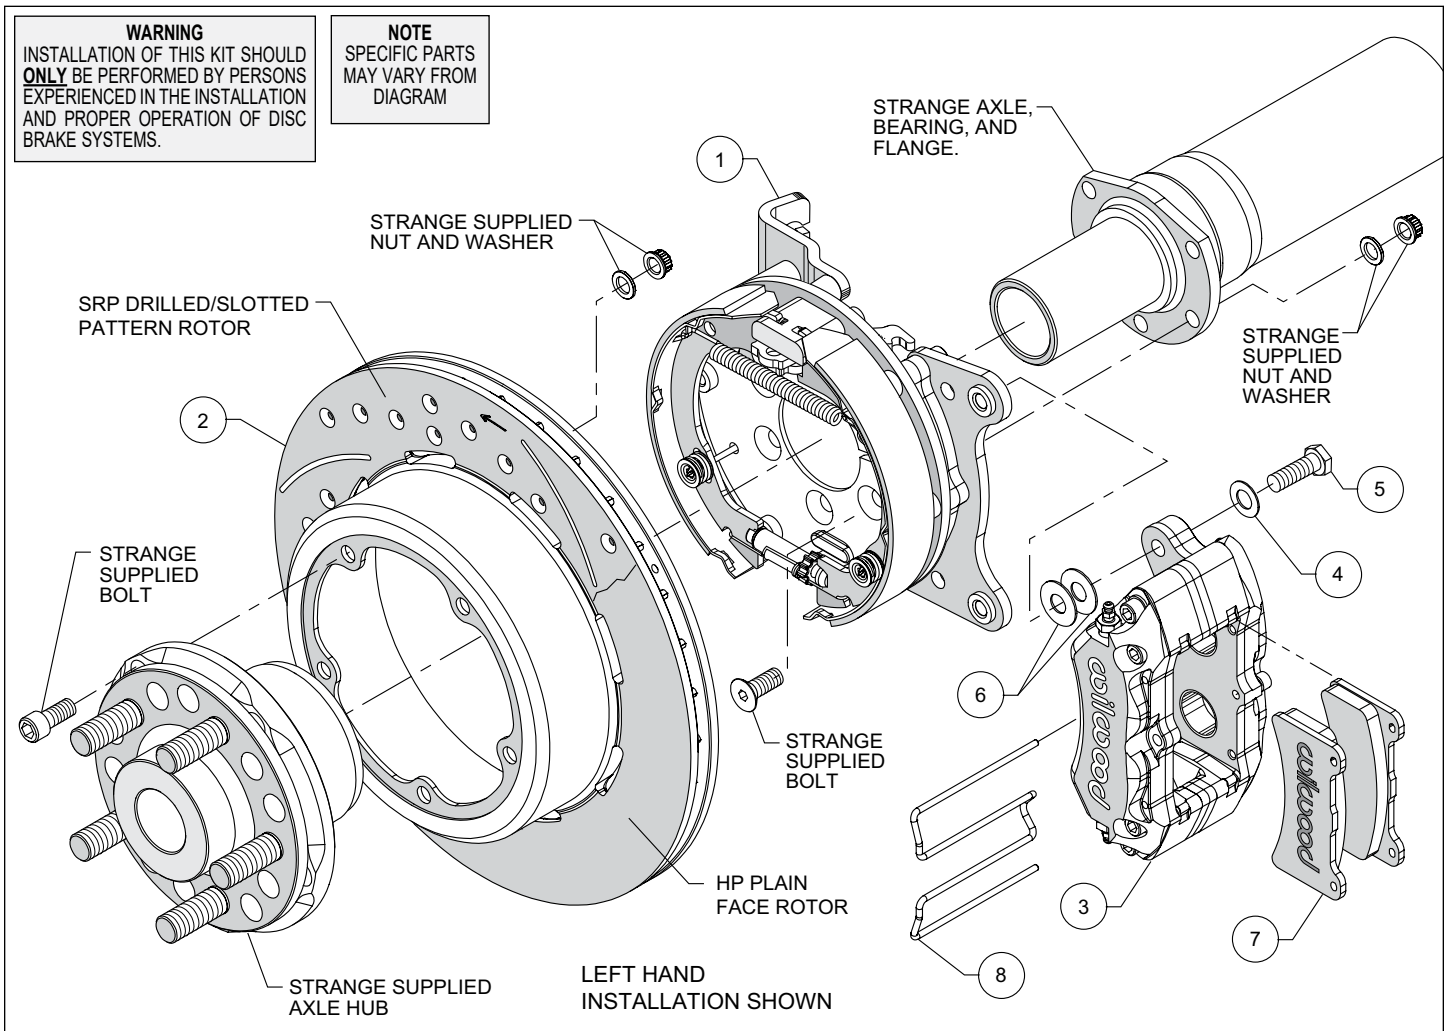
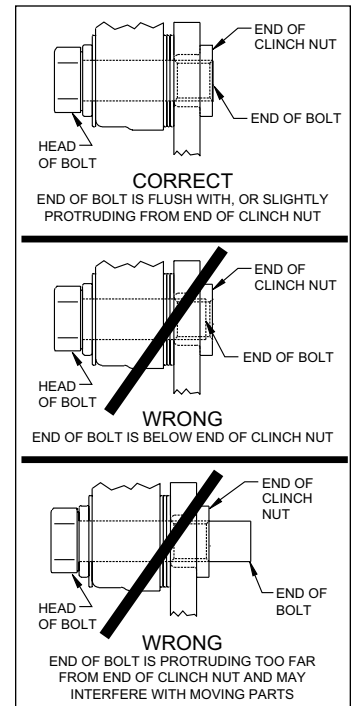

Figure 1. Typical Installation Configuration
Figure 3. Clinch Nut Engagement Diagram
NOTE: Numbers in parenthesis refer to the parts list and Figure 1 on the preceding pages.
CAUTION: All mounting bolts must fully engage clinch nuts. Be sure to check that all bolts are either flush or protruding through flanged side of clinch nut after shimming, Figure 3.
- Orient the bracket assembly (1) as shown in Figure 1 and slide it onto the axle. Ensure that the bracket assembly backing plate fits flush against the axle housing flange. Mount the bracket assembly to the axle flange using bolts, washers, and nuts (all Strange supplied) as shown in Figure 1. Apply red *Loctite*® 271 to the bolt threads and torque to Strange specifications.
- Orient the rotor (2) and the axle hub (Strange supplied) as shown in Figure 1. Attach the rotor to the axle hub using bolts, washers, and nuts (all Strange supplied) as shown in Figure 1. Apply red *Loctite*® 271 to the bolt threads and torque to Strange specifications.
- Slide the rotor/hub assembly onto the axle as shown in Figure 1 and secure per Strange specifications.
- NOTE:** Please reference the caution statement at the beginning of the assembly instructions. Mount the caliper (3) onto the caliper mounting bracket (1) using bolts (5) and washers (4), as shown in Figure 1. Initially place two .035" thick shims (6) on each bolt between the caliper and the bracket, Photo 1. Temporarily tighten the mounting bolts and view the rotor (2) through the top opening of the caliper. The rotor should be centered in the caliper, Photo 2. If not, adjust by adding or subtracting shims between the bracket and the caliper. Always use the same amount of shims on each of the two mounting bolts. **NOTE:** The end of each bolt must be flush with or slightly protruding from the head of the clinch nut, as shown in Figure 3. If necessary place spare shims between washer (4) and caliper mounting ear to achieve the proper clinch nut engagement. Once the caliper alignment and clinch nut engagement are correct, remove the bolts one at a time, apply red *Loctite*® 271 to bolt threads, and torque to 40 ft-lb.
- Install the disc brake pads (7) into the caliper, with the friction material facing the rotor (2), and secure in place using the pad clip retainer (8), Photo 3.
- NOTE:** Clevis and cable kits which attach to the parking brake assembly are not included in the Wilwood parking brake kit. Wilwood offers a generic style parking brake cable kit, P/N 330-9371 for this application which can be ordered separately from your local Wilwood dealer or by calling Wilwood customer service at (805) 388-1188.
- Before final installation of the wheel, remove the rubber grommet in the bracket kit assembly (1) and adjust the parking brake shoes outward (using a drum shoe adjustment tool available at your local auto parts store) while spinning the rotor/hub (2) until a slight drag is felt against the hat/drum. Replace the rubber grommet when finished.